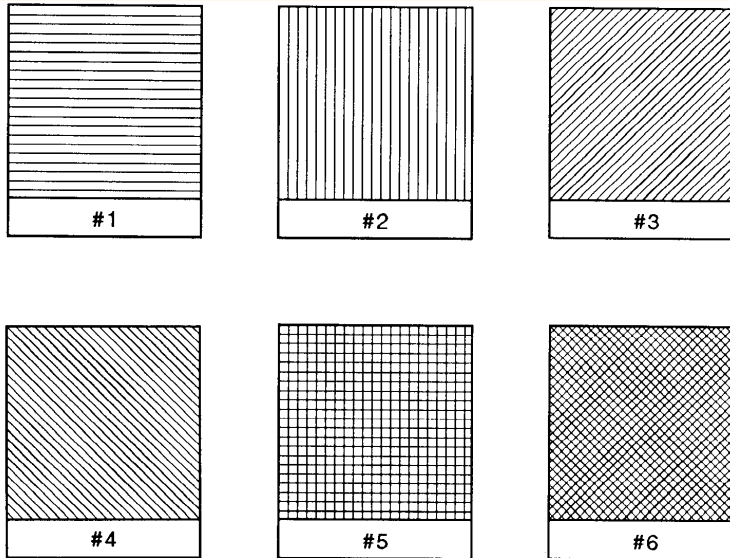

Figure 103. Patterns for Fill Type 21
Additional fill types (21 and 22) are imported from PCL or HP RTL. *Fill_type* 21 selects a PCL or HP RTL predefined patterned fill. *Option1* specifies a pattern type from 1 to 6 (see Figure 103). *Option2* is ignored. *Fill_type* 22 uses the PCL or HP RTL user-defined fill specified by [ESC*c#W\[*pattern data*\]](#), Download Pattern. *Option1* is the PCL or HP RTL ID of the user-defined fill. *Option2* is ignored. An invalid *option1* (for example, where the pattern has been deleted), prints a solid fill in the current color.
5. For *fill_type* 21, which is only available with devices that support the dual-context extension, the predefined pattern fill is imported from PCL or HP RTL. *Option1* specifies the pattern type, using a value from 1 to 6 as shown in Figure 103.